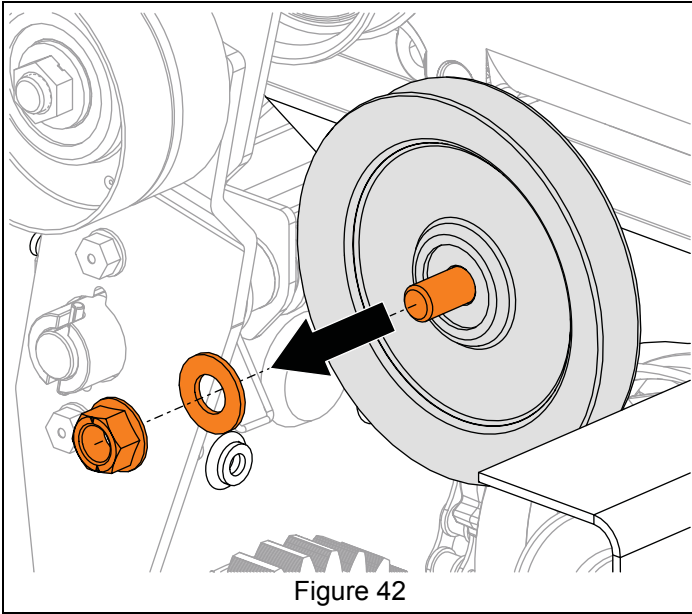

Figure 42
11. Remove hardware retaining idler pulley and remove pulley. See Figure 42.